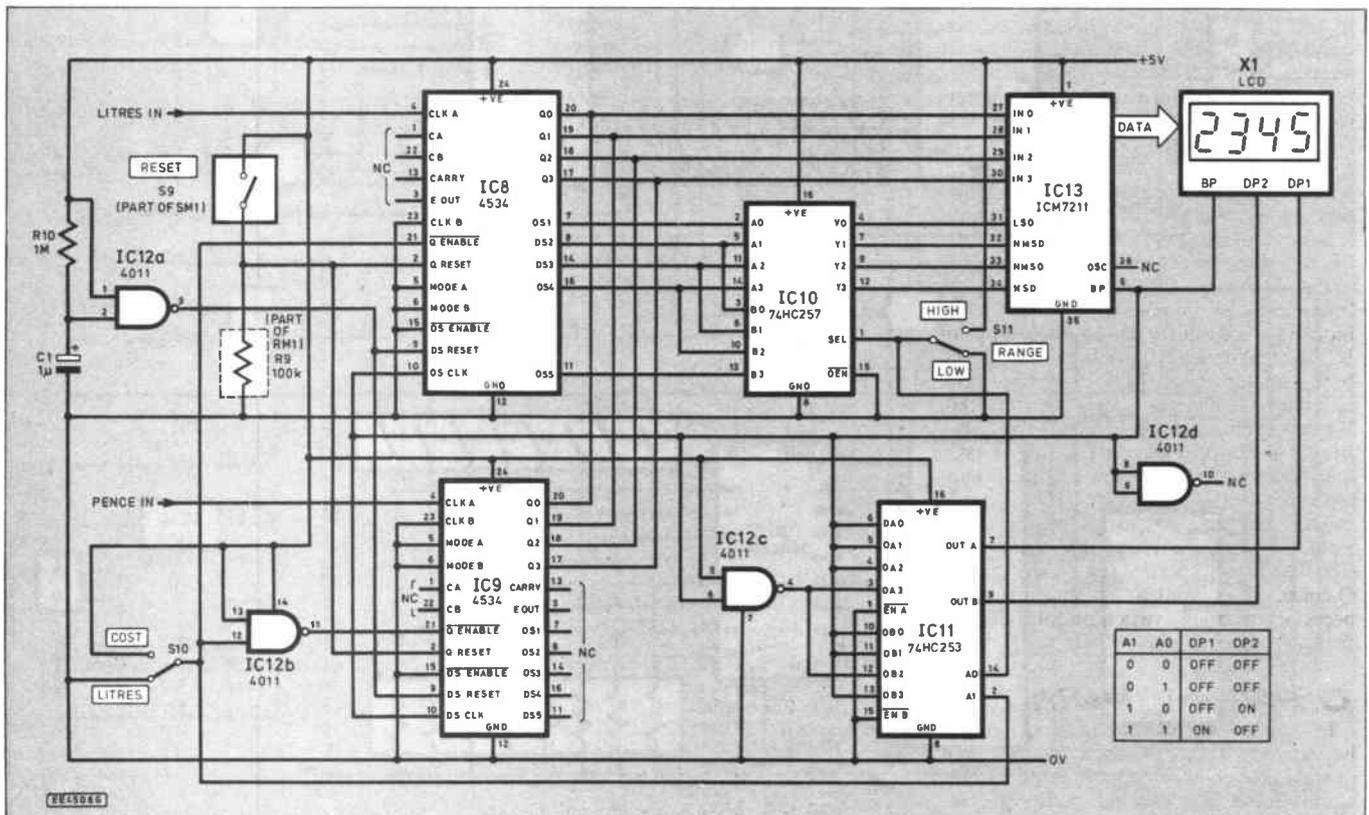

Fig. 5. Circuit diagram of the Litres and Cost Counter stages of the Digital Water Meter.
The AND gate's output pulses are counted by another stage (see Fig. 5) from where the total can be fed to the display unit. The gate's pulses also trigger the first stage of the cost scaling circuit.
Referring to Fig. 5, two multiplexed 5-decade counters, IC8 and IC9, respectively tot-up the litres and pence counts. The type 4534 chip used for both counters has five internal count registers whose binary-coded-decimal (BCD) outputs can be separately switched to the Q0 to Q3 outputs by an internal digit-select (DS) counter.